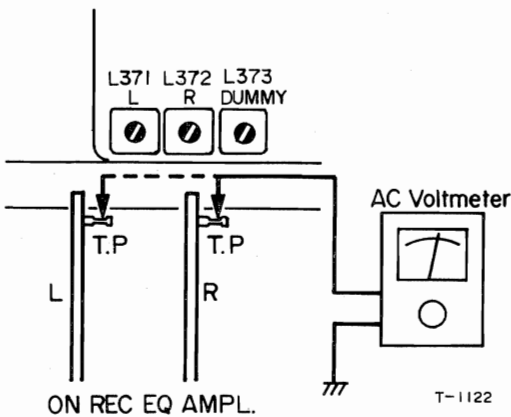

Fig. 8-7 Bias Trap Test Point
3. Connect a VTVM or oscilloscope to Test Point and ground. See Fig. 8-7.